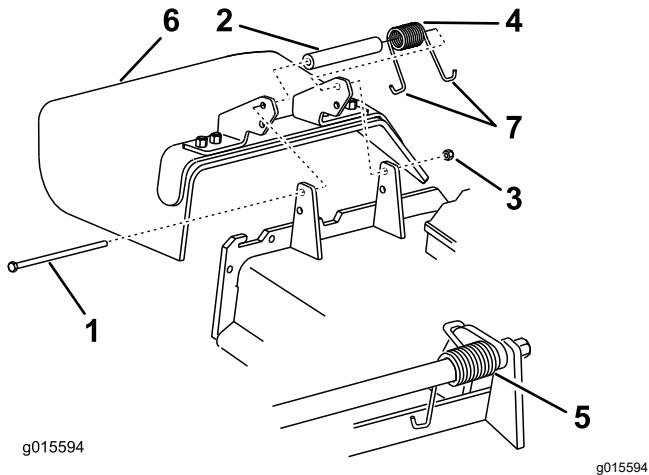

Figure 56
3. Remove the locknut, bolt, spring, and spacer holding the deflector to the pivot brackets (Figure 56).
4. Remove the damaged or worn grass deflector (Figure 56).
Note: Make sure that 1 J-hook end of the spring is installed behind the deck edge before installing the bolt as shown in Figure 56.
8. Place 1 J-hook end of the spring around the grass deflector (Figure 56).